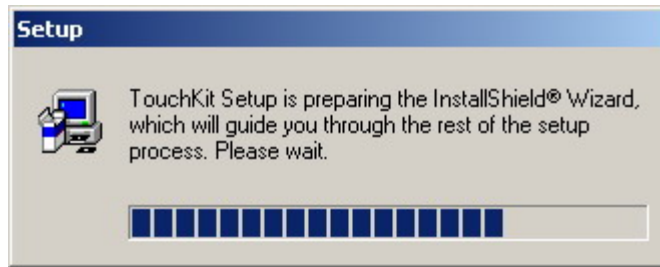

Figure C-2: Install Shield Wizard Preparation
Step 6: Once the OS system is selected, the touch kit setup will prepare the install shield wizard (**Figure C-2**).